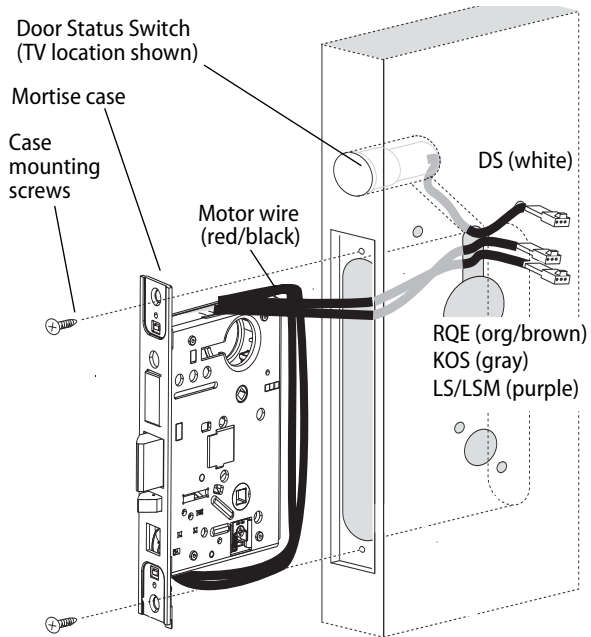

Figure 7 Installing the mortise case
- Insert the mortise case into the mortise cavity, while feeding the motor wires and any optional sensor wires into the mortise cavity and keyhole to the inside of the door as shown in Figure 7.